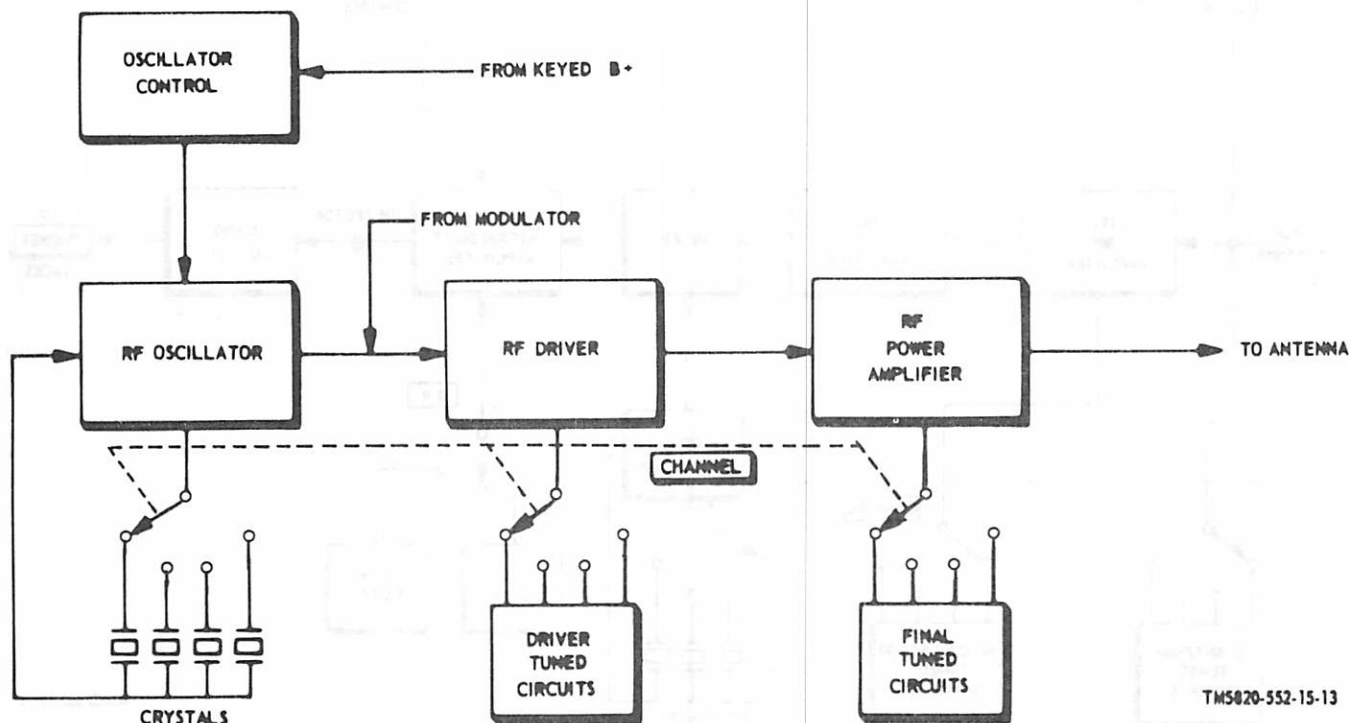

Figure 6-2. Block diagram, transmitter assembly.
#### 6-2. Transmitter Assembly (fig. 6-2 and 7-26)
*a.* The transmitter functional section contains the components shown in figure 6-2, along with switching and interwiring of the main chassis networks of the AN/PRC-64A. The crystal-controlled frequency selected by switching to one of four channels is set up in the RF oscillator circuit with control of the oscillator effected by the oscillator control assembly. The RF signal produced and the modulated audio or keyed signal are applied to the RF driver stage. The carrier signal is modulated further in the driver with the signal determined by the driver tuned circuit. The signal receives final amplification and tuning in the RF power amplifier